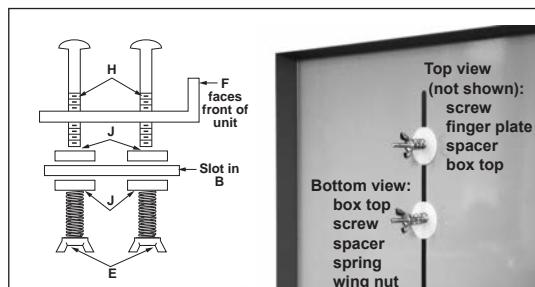

FIGURE 3
Insert the channel mount screws (D) through the holes on the finger plate (B) as shown in FIGURE 3 and put one teflon spacer (F) through each screw (D). Place the screws into the channel on the Top Plate (TP). Insert another spacer (F) into each screw under the Top Plate (TP). followed by a spring (E) and then a wing-nuts (A). (See Figures 3 and 4). Hand-tighten wing-nut.